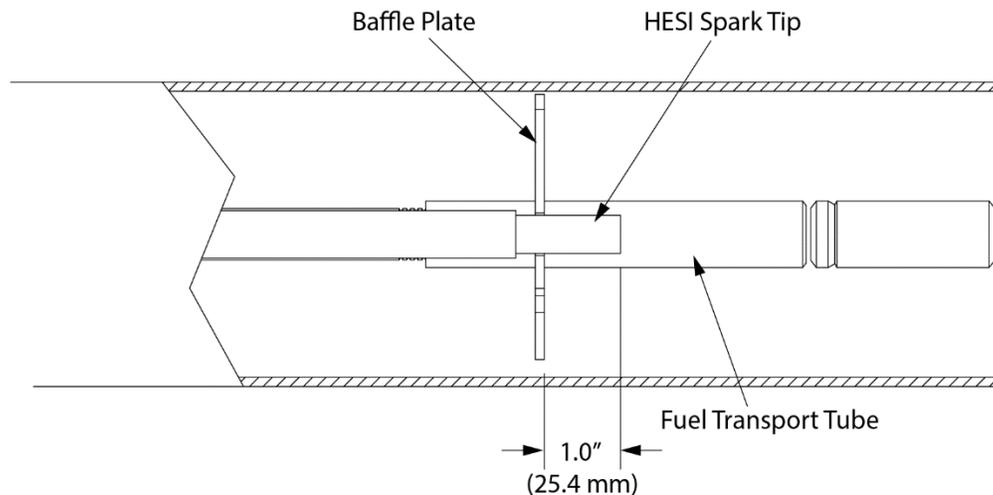

Figure 4-1 Typical HESI Spark Tip Location
1. Before installing the igniter assembly into the mount tube, inspect the primary combustion area of the igniter for cleanliness and proper HESI spark rod position. The HESI spark rod is factory set and should not need adjustment. If necessary, refer to Figure 4-1 for HESI spark rod tip settings.
- The HESI spark rod tip is positioned correctly, as shown in Figure 4-1, and is sparking during the ignition process.